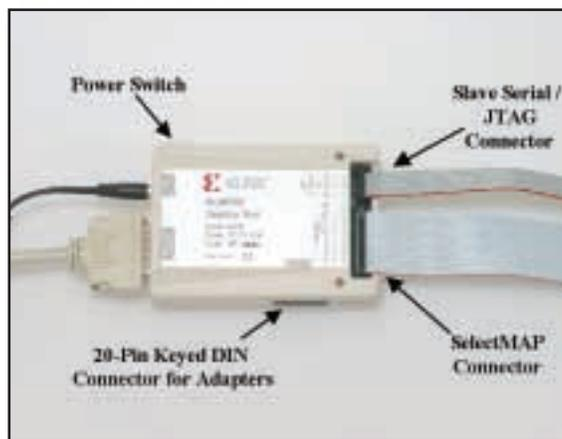

Figure 1 - MultiPRO with download cable ribbons
- Run software to download bit-stream and program/configure target FPGA, CPLD, or PROM (Figure 1).